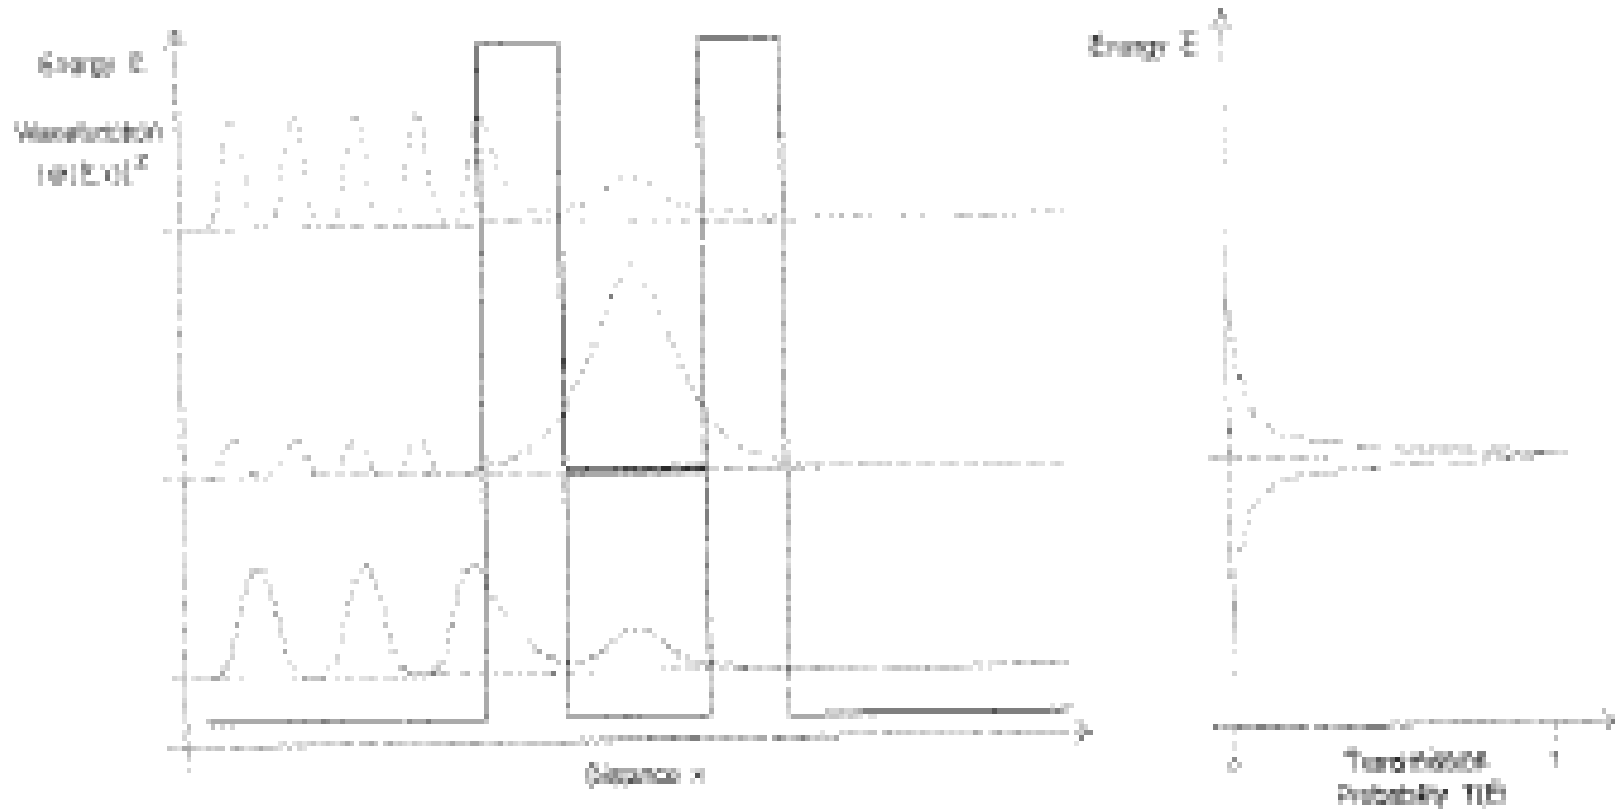

Fig. 12.10. Resonant effect: The material wave reaches its maximum if the energy of the tunneling electrons is equivalent to the level in the quantum well
- Resonant happens if energy of tunneling electrons is equivalent to the level in the quantum well (Figure 12.10)
- Under these conditions transmission probability (T) reaches its highest peak